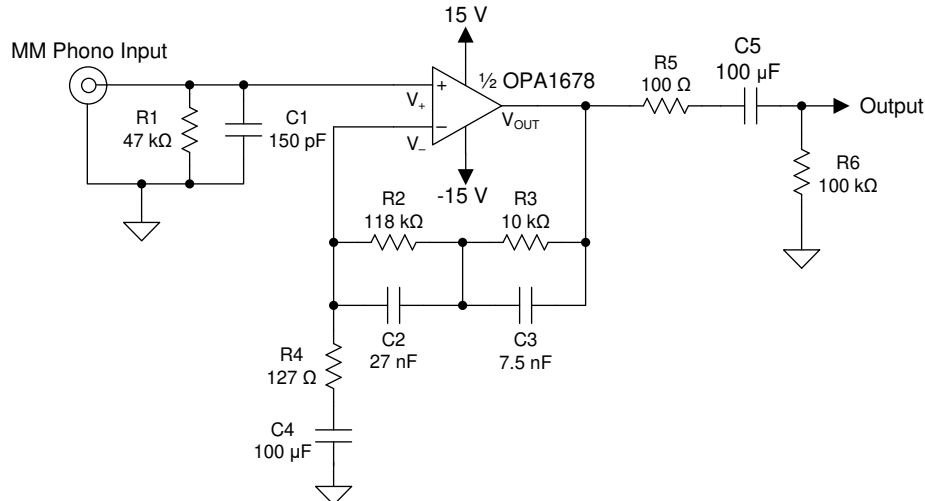

Figure 8-4. Phono Preamp for Moving Magnet Cartridges (Single-Channel Shown)
The noise and distortion performance of the OPA167x family of amplifiers is exceptional in applications with high source impedances, which makes these devices a viable choice in preamplifier circuits for moving magnet (MM) phono cartridges. Figure 8-4 shows a preamplifier circuit for MM cartridges with 40 dB of gain at 1 kHz.